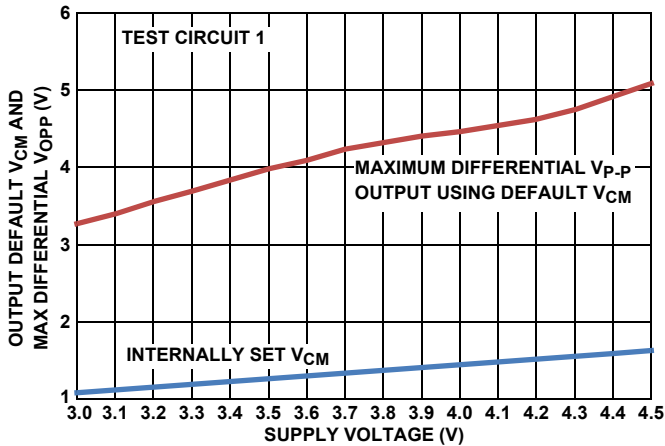
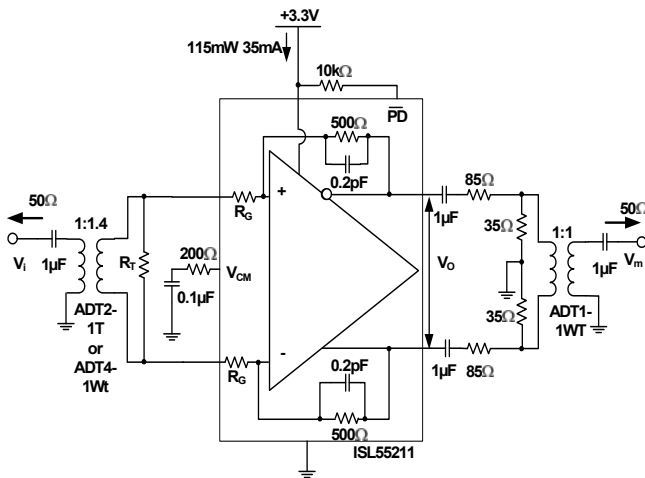
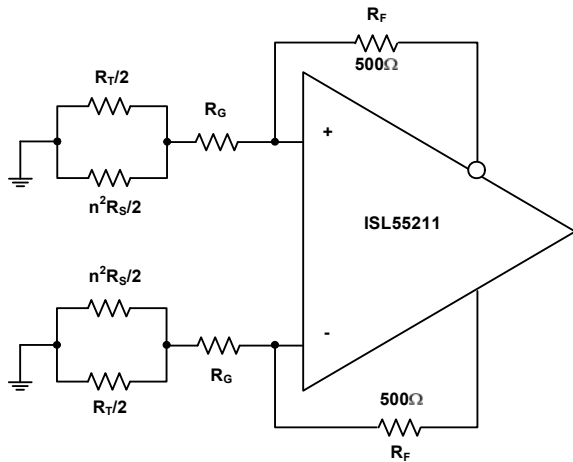
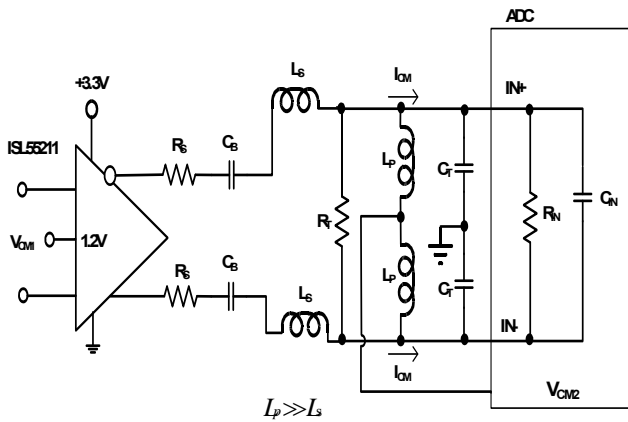

FIGURE 27. DEFAULT  $V_{CM}$  AND MAX  $V_{OPP}$  vs SUPPLY VOLTAGE
FIGURE 29. TEST CIRCUIT 1
FIGURE 35. NOISE GAIN MODEL FOR THE TRANSFORMER COUPLED INPUT CIRCUIT OF FIGURE 29
FIGURE 37. AC-COUPLED, HIGHER FREQUENCY RLC INTERSTAGE FILTER DESIGN
Test Circuit 1 of Figure 29 forms a starting point for many of the characterization curves for the ISL55211. Since most lab sources and measurement devices are single-ended, this circuit converts to differential at the input through a wideband transformer and would also be a typical application circuit coming from a single-ended source. Assuming the source is a 50 $\Omega$  impedance, the internal  $R_G$  resistors and external  $R_T$  are set to provide both the input termination and the gain. Since the inverting summing nodes act as virtual ground points for AC signal analysis, the total termination impedance across the input transformer secondary will be  $(2 * R_G) || R_T$ . Setting this equal to  $n^2 * R_S$  will give a matched input impedance inside the bandwidth of the transformer (where "n" is the turns ratio). The amplifier gain is fixed by the selected input  $R_G$  element and the internal 500 $\Omega$  feedback resistors. While the ISL55211 is internally a Voltage Feedback Design (VFA) to give the lowest possible noise, internal compensation caps hold the bandwidth over gain setting approximately constant at 1.4GHz. For wider small signal bandwidth at lower gains, consider the ISL55210, which provides >2.2GHz at a gain of 12dB.
Working with a transformer coupled input as shown in Figure 29, or with two DC blocking caps from a differential source, means the output common mode voltage set by either the default internal  $V_{CM}$  setting, or a voltage applied to the  $V_{CM}$  control pin, will also appear as the input common mode voltage. This provides a very easy way to control the ISL55211 I/O common mode operating voltages for an AC-coupled signal path. The internal common mode loop holds the output pins to  $V_{CM}$  and, since there is no DC path for an  $I_{CM}$  current back towards the input in Figure 29, that  $V_{CM}$  setting will also appear as the input common mode voltage. It is useful, for this reason, to leave any input transformer secondary centertap unconnected. The internally set  $V_{CM}$  voltage is referenced from the negative supply pin. With a single 3.3V supply, it is very close to 1.2V but will change with total supply voltage across the device as shown in Figure 27.
Most of the characterization curves starting with Figure 29 then get different gains by changing the connections to the two pairs of input  $R_G$  connections, as shown on the pin configuration drawing on page 2. Two input turns ratios are intended for Test Circuit 1; either a 1:1.4 turns ratio (ohms ratio of 2) or a 1:2 turns ratio (ohm ratio of 4). The specific transformers shown in Figure 29 are representative of broadband RF transformers but alternate devices and manufacturers of these turns ratio devices are certainly applicable. The output side of this test circuit presents a differential 200Ω load while converting the differential to single-ended through a resistive attenuator and a 1:1 transformer. This inserts approximately a 17dB insertion loss that is removed to report the characteristic curves. For load tests below the 200Ω shown in Figure 29, a simple added shunt resistor is placed across the output pins. For loads > 200Ω, the series and shunt load R's are adjusted to show that total load (including the 50Ω measurement load reflected through the 1:1 output measurement port transformer) and provide an apparent 50Ω differential source to that transformer. This output side transformer is for measurement purposes only and is not necessary for final applications circuits. There are output interface designs that do benefit from a transformer as part of the signal path as shown in Figure 1. In that case, the 1:1.4 output side transformer becomes part of a filter design and recovers the filter insertion loss from the amplifier output pins to the ADC inputs.
The characterization circuit of Figure 29 shows one possible input stage interface that offers several advantages. Where AC coupling is adequate, the circuit of Figure 29 simplifies the input common mode voltage control. If the source coming into this stage is single-ended, the input transformer provides a zero power conversion to differential. The two gain resistors ( $R_G$  in Figure 29) provide both a portion of the input termination impedance and the gain element for the amplifier. For 50Ω systems, these  $R_G$  resistors are too high with the turns ratios shown in Figure 29 to provide the full match and an external  $R_T$  resistor is required. This  $R_T$  element goes away at the highest gain setting using a 1:2 input turns ratio transformer.
This input interface also simplifies the input common mode control. The  $V_{CM}$  pin controls the output common mode voltage. In most DC-coupled FDA applications, the input common mode voltage is determined by both this output common mode and the source signal. In a configuration like Figure 29, there is no path for a common mode current to flow from output to input, so the input common mode voltage equals the output. A similar effect could be achieved with just two blocking caps on the two  $R_G$  resistors. A DC-coupled, single to differential, configuration will also have a common mode input that is moving with the input signal. Converting to just a differential signal at the amplifier, as in Figure 29, removes any input signal related artifacts from the input common mode making the ISL55211 behave as a differential only VFA amplifier. There is only a very small differential error signal at the inputs set by the loop gain, as in a
of 1.3V for instance, then  $1.3V + 0.9V + 1.5V = 3.7V$  will give an unclipped 3.6VP,P output capability. The  $V_{P,P}$  reported in Figure 27 is an asymmetrically clipped maximum swing. Going 10% above this 3.7V target to 4.1V will be within the recommended operating range and give some tolerancing headroom that would also suggest the  $V_{CM}$  voltage be moved up to approximately 1.5V, which coincides with the default output  $V_{CM}$  from Figure 27. Operating at +4.1V single supply in a Figure 29 type configuration will give the maximum linear differential output swing of 3.6VP,P.
The differential inputs internal to the ISL55211 also have operating range limits relative to the supply voltages. Operating in an AC-coupled circuit like Figure 29 will produce an input common mode voltage equal to the outputs. The inputs can operate with full linearity with this  $V_{CM}$  voltage down to 1.1V above the  $-V_S$  supply. On the default 1.2V output  $V_{CM}$  on +3.3V supplies this gives a 100mV guardband on the input  $V_{CM}$  voltages. Overriding the default  $V_{CM}$  by applying a control voltage to the  $V_{CM}$  pin should be done with care in going towards the negative supply due to this limit. On the + side, the maximum input  $V_{CM}$  above the  $-V_S$  supply is 2V so there is more room to move the output  $V_{CM}$  up than down from the default value.
+85°C maximum operating ambient from Figure 27, we get  $4.5V \times 45mA \times 120^\circ C/W = +24^\circ C$  rise above +85°C or approximately +109°C operating  $T_j$  maximum - still well below the specified Absolute Maximum operating junction temperature of +135°C.
Adding an input transformer can improve the input referred noise by adding a noiseless voltage gain. Starting from Test Circuit 1 of Figure 29, and assuming the source shows a matched broadband source RS that will be matched by the input referred parallel combination of 2\*RG || RT, a noise gain analysis circuit can be developed as shown in Figure 35.
Stepping through the 3 gain settings with two input transformers will allow the noise gain to be calculated for the circuit of Figure 35, which is all that is needed in Equation 1 to arrive at an output differential noise (since RF is fixed at 500Ω). Doing this gives Table 4.
2. AC-coupled, higher frequency range interstage filter design. This design replaces the  $R_T$  resistors in Figure 35 with large valued inductors and implements the filter just using shunt resistors at the end of the RLC filter. In this case, the ADC  $V_{CM}$  can be tied to the centerpoint of the bias path inductors (very much like a Bias-T) to provide the common mode voltage and current to the ADC inputs. These bias inductors do limit the low frequency end of the operation where, with  $1\mu\text{H}$  values, operation from 10MHz to 200MHz is supported using the approach of Figure 37.